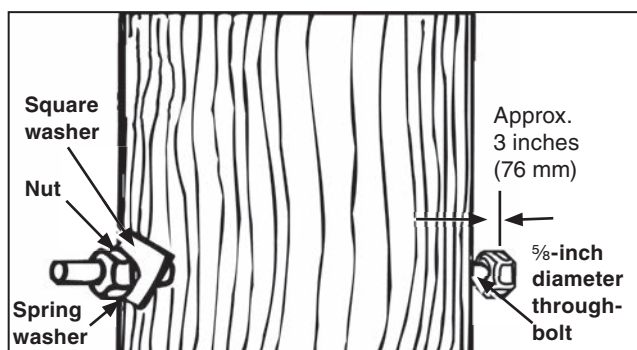

Figure 4. Installing the through-bolts.
- STEP 2.** Insert a $\frac{5}{8}$ -inch diameter through-bolt (not furnished) into each hole as shown in Figure 4.